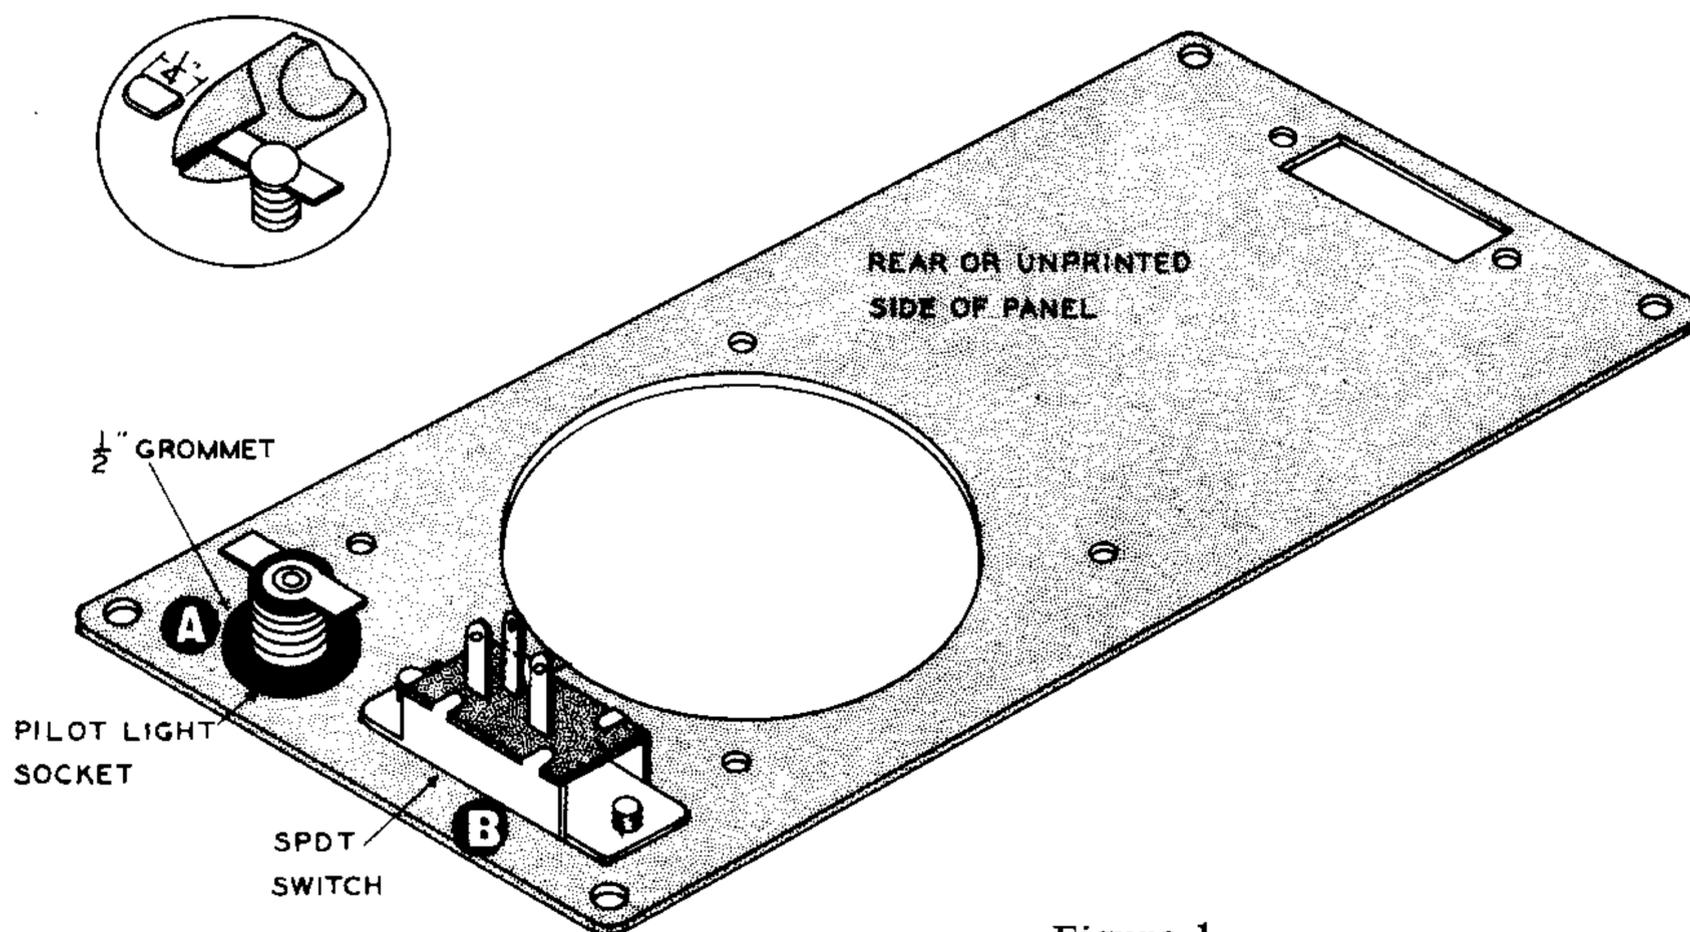

Figure 1
- ( ) Mount the 1/2" rubber grommet in hole A. Refer to Figure 1.
- ( ) Moisten the inside edge of the 1/2" grommet with soapy water, or a similar slippery substance. From the rear side of the panel, work the pilot light socket through the grommet until it emerges flush with the grommet on the front side of the panel. Rotate the socket until the terminals face as shown in Figure 1.
- ( ) Mount the SPDT (Single Pole Double Throw) slide switch in hole B with the center terminal of the switch facing toward the large speaker hole. A nut and lockwasher is not necessary. Use two 6-32 x 1/4" BHMS (Binder Head Machine Screws). See Figure 1.